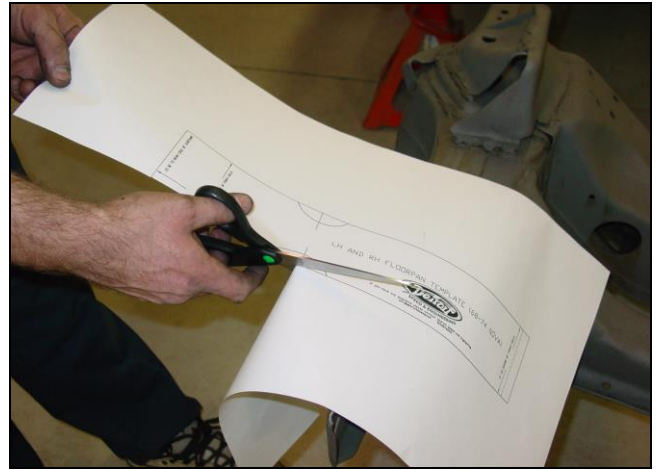

Figure 4
8. Templates are provided for the installer to mark the floor pan. (Figure 4 on the next page) The templates should be cut from the provided sheet. The floor pan template should be placed on the underside of vehicle (using tape or small magnets) and mark the edges for your cuts. There are dimensions on the template to assist locating cut lines (do not use drain holes for locating template). The pinch weld flanges on the rocker are used as a reference. The template can be used on either side by flipping the template from side to side.